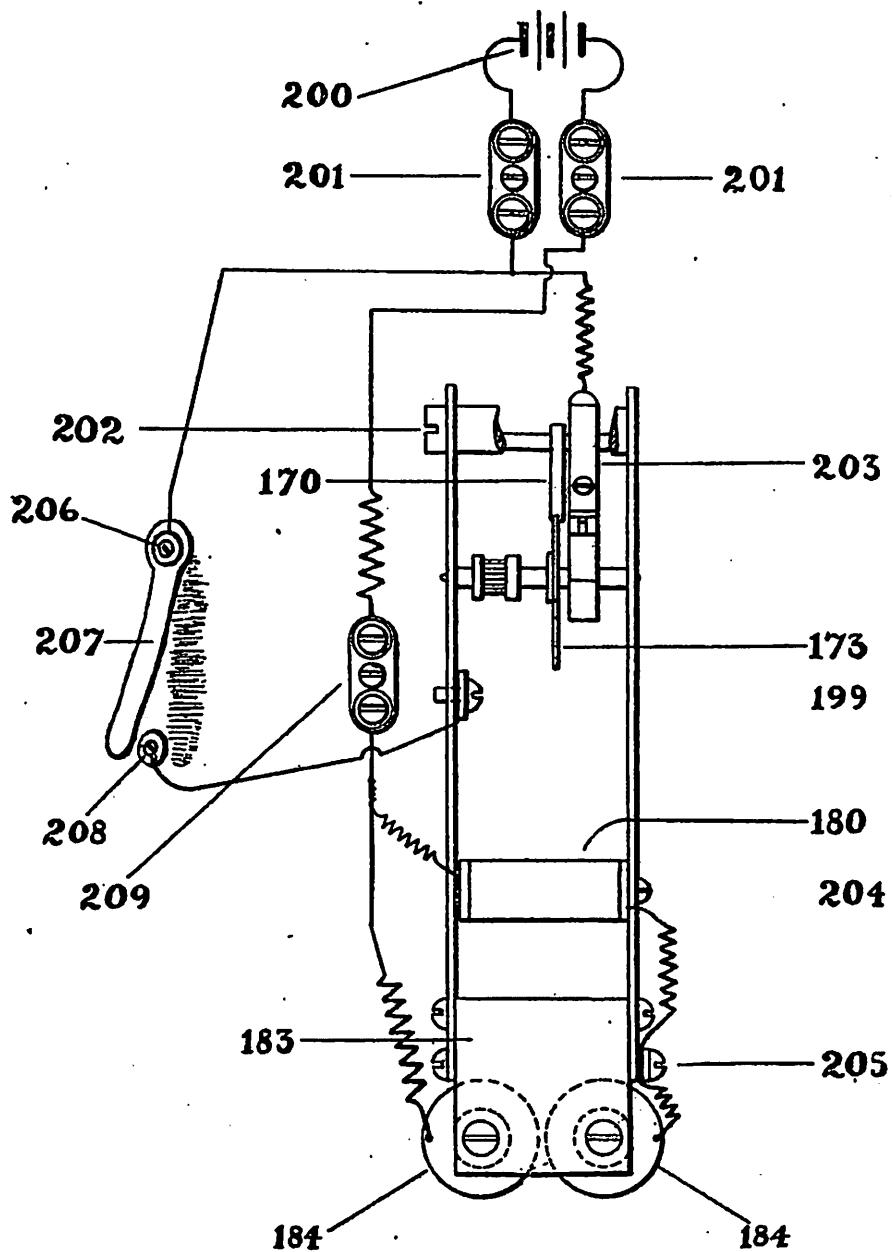

Fig. 10
1. Having set and connected batteries as per instructions, press "setting key" sixty (60) times, after which the clock will automatically wind itself once each minute, winding on the half minute. The "setting key" 207, Fig. 10, is located at left hand side of case, just below master clock dial. It is a good plan to press the "winding key" fifteen or twenty times once each month or two, simply to make sure that the master is winding properly, and the battery is in working order. Should you press the "winding key" and not hear the winding armature click you will know winding battery is run down. Don't press "winding key" when second hand is at 60, as the secondary clocks are then operated and may be "scattered".
3. The master clock is regulated in same manner as any ordinary clock, by means of the adjusting nut under pendulum ball. To regulate pendulum, stop it when the second hand is one or two seconds past 60, then with left hand carefully support pendulum bob while with thumb and forefinger of right hand you turn adjustment nut, being careful not to twist pendulum. If the clock gains, lower pendulum bob; if it loses, raise it: Turning adjusting nut so that its front edge moves from left to right, raises pendulum bob and vice versa. One full turn of adjusting nut makes a difference of about  $\frac{1}{2}$  minute in twenty-four (24) hours. When variation is but a few seconds per day a small fraction of a turn of the nut will suffice.
Fig. 10 shows manner of connecting wires and battery. 200 is winding battery, the wires of which are connected to binding plates 201 on top of master clock; 207 is the "winding key" for winding driving spring 181, as per in-
When self-winding master clocks are to operate secondary clocks they are fitted with two circuit closers as shown in Fig. 10, one operates the winding mechanism and the other the secondaries. The secondary clock circuit closer operates when the second hand is at 60 and winding circuit closer when second hand is at 30. This circuit closer consists of a vibrating and a revolving contact.